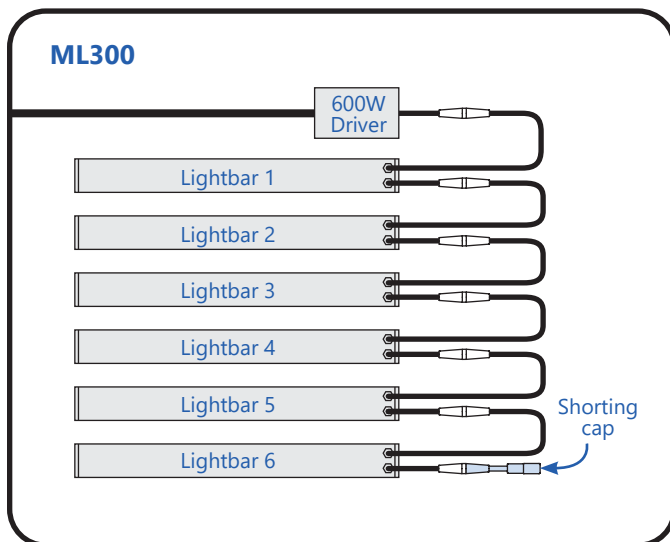

Figure 1
For ML300 (see Fig. 1)
- ① Turn OFF power to driver.
- ② Remove the shorting cap from the last lightbar in the line (e.g. #6 Lightbar in Figure 1).
- ③ Connect shorting cap to Lightbar#5. Turn driver power ON.
- ④ If all lightbars turn on, then Lightbar#6 is faulty.
- ⑤ If all lightbars are still off, turn power OFF to driver. Move shorting cap to Lightbar#4. Turn Power ON.
- ⑥ If all lightbars turn on, then faulty lightbar is either #5 or #6. Turn power OFF to driver.
- ⑦ Connect Output of Lightbar#4 to input of Lightbar#6. Turn power ON.
- ⑧ If all lightbars turn on, then the faulty lightbar is #5.